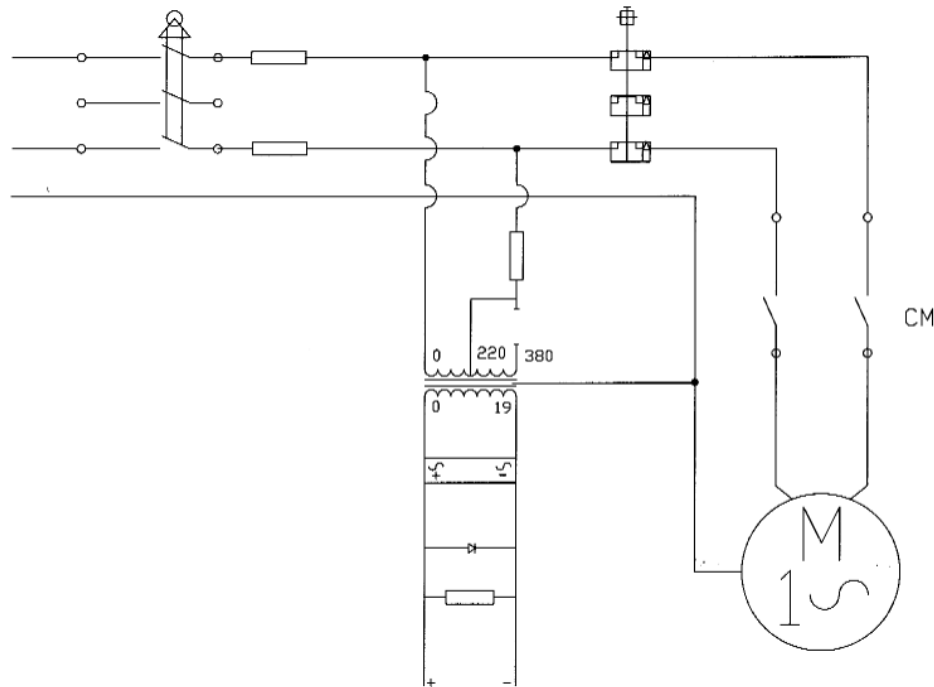

Figure 6 - Electrical Diagram
- Connect a power cord to the control desk as shown in Figure 6.
- Connect control lines (pre-fitted to the lift) to the control desk as shown in Figure 6.